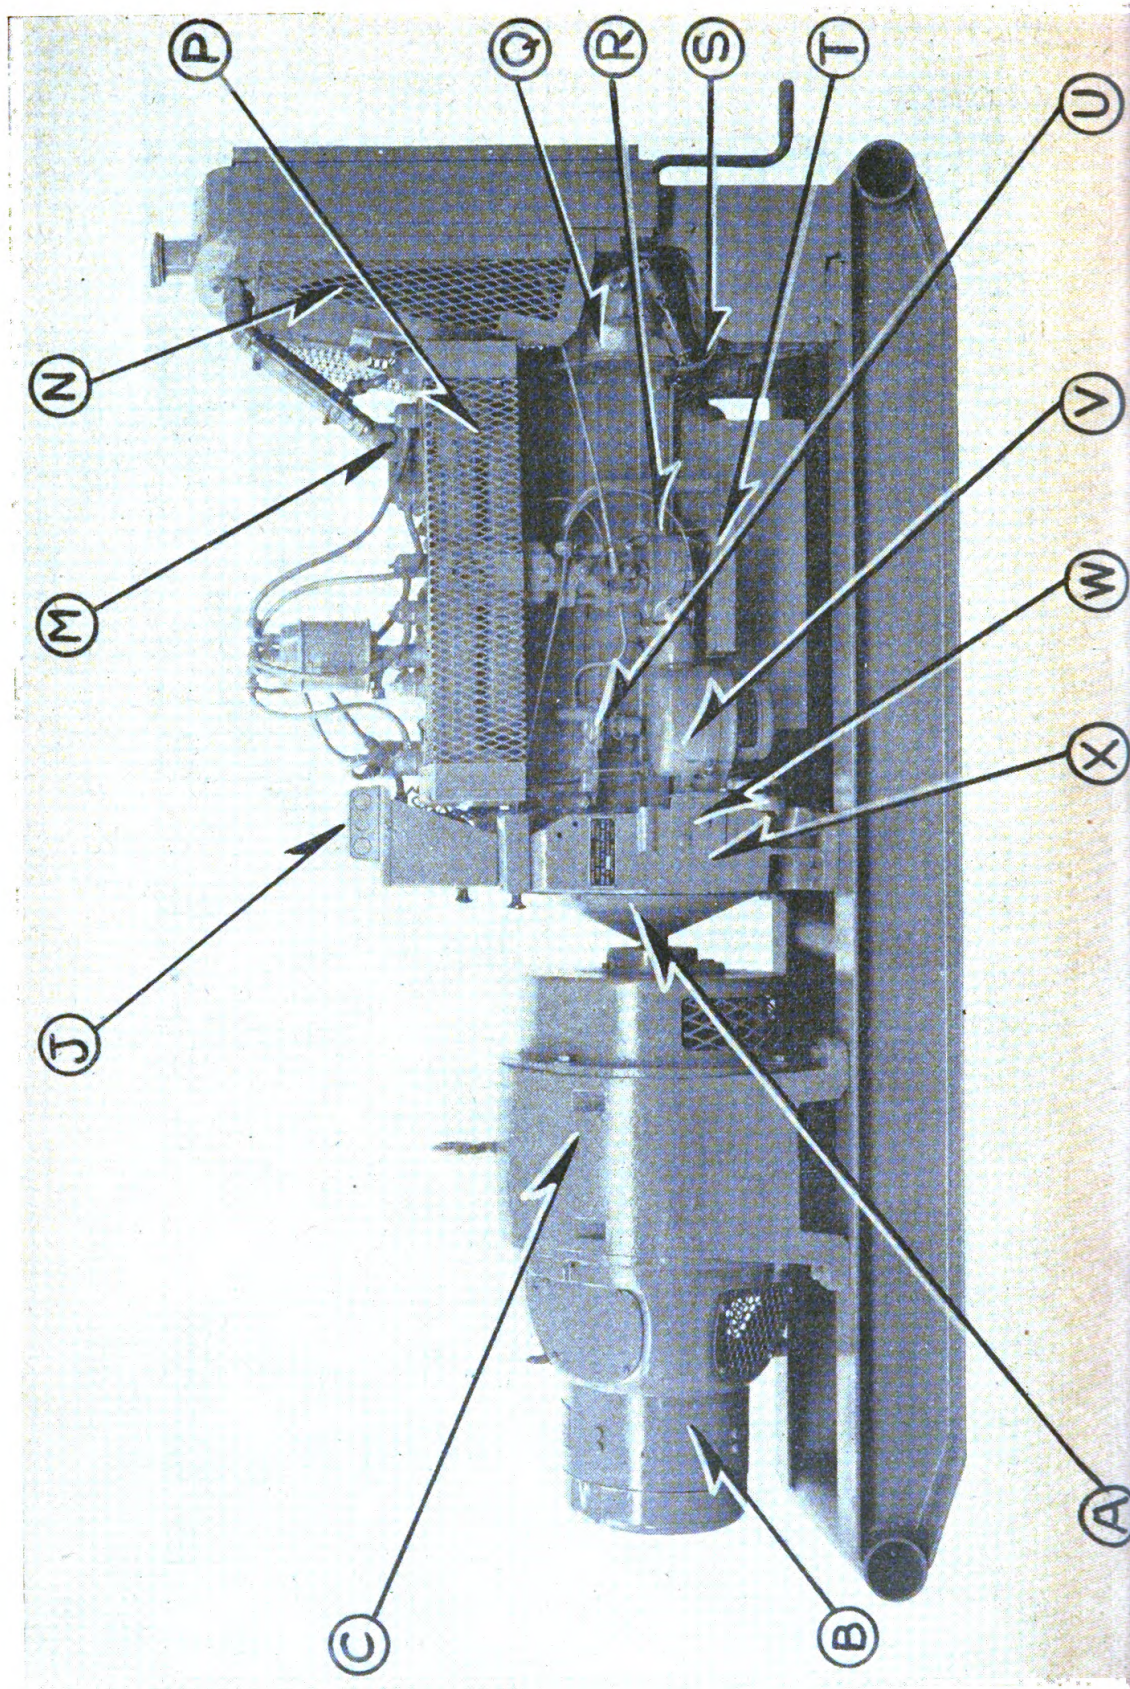

Figure 1. Power Unit PE-79-F, left side.
LEGEND FOR FIGURE 1.
a. Engine. The engine (figs. 1 and 2) is a 6-cylinder, 4-cycle, L-head water-cooled automotive type. It furnishes the power to drive the alternator at a speed of 1,200 revolutions per minute (rpm). The engine develops approximately 26.6 horsepower. The piston displacement is 226 cubic inches, the bore is $3\frac{5}{16}$ inches, and the stroke is $4\frac{3}{8}$ inches. A description of some of the engine parts follows:
b. Alternator (fig 1). The 3-phase alternator consists of two generators, the d-c exciter [B] and the a-c generator [C]. Both units are attached to the same shaft which is connected to the engine drive shaft by a flexible coupling.